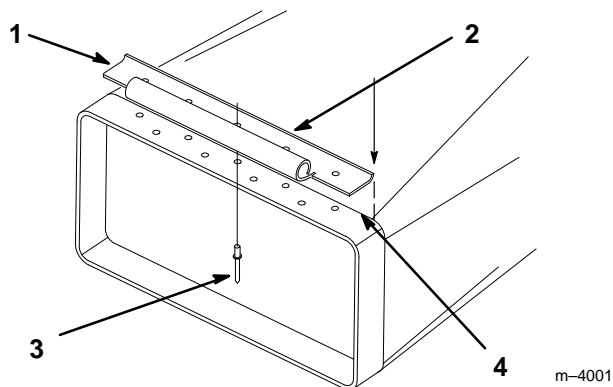

**Figure 8**
2. Measure for hole location as shown (Fig. 8).
3. Mark and drill a 9/32" (7.5 mm) hole in the chute, as shown, for the short spring bracket (Fig. 8).
4. Place the 1/4" (6 mm) washer and 1/4-20 x 3/4" (19 mm) bolt through the hole from the inside of the chute and secure the short spring bracket to the bolt with a 1/4-20 locknut (Fig. 8).